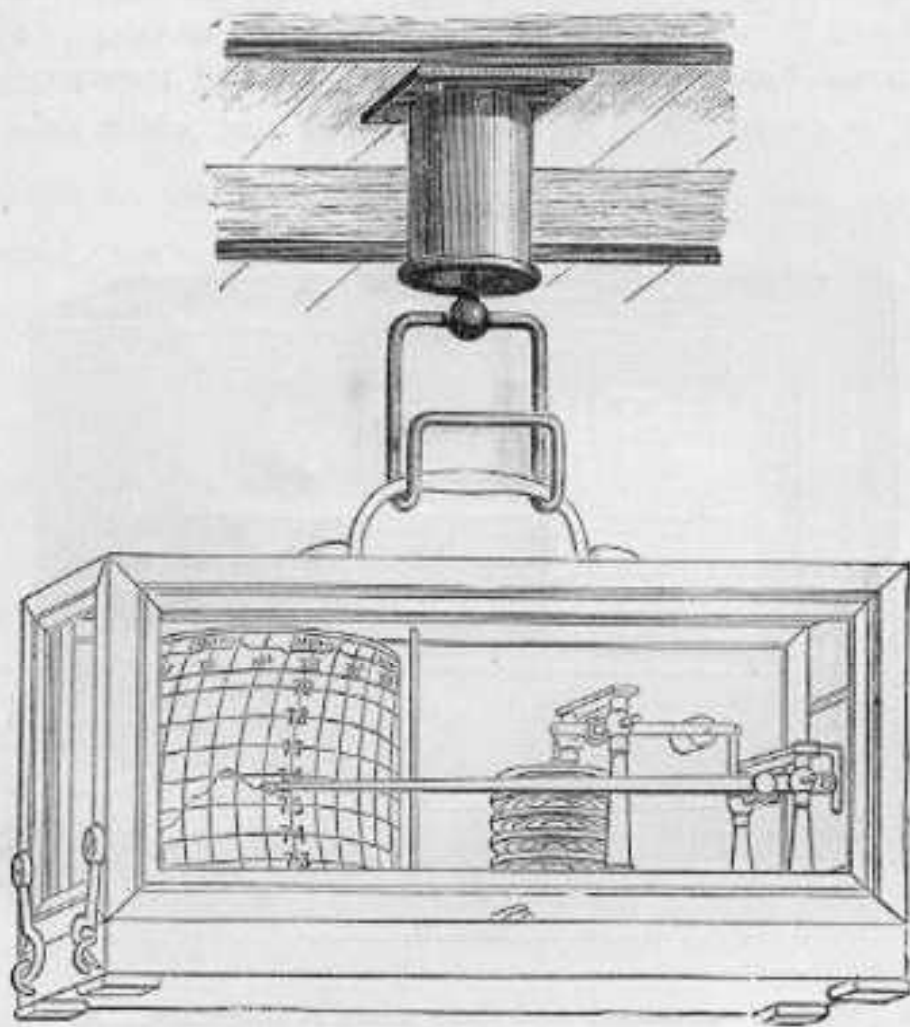

FIG. 1A.
**Marine Suspension.** The above and some of the following instruments being well adapted for marine purposes, some suitable means of protecting them from the vibrations of the vessel had to be thought out, and the Spring Suspension (see Fig. 1A) fulfils this want most satisfactorily.